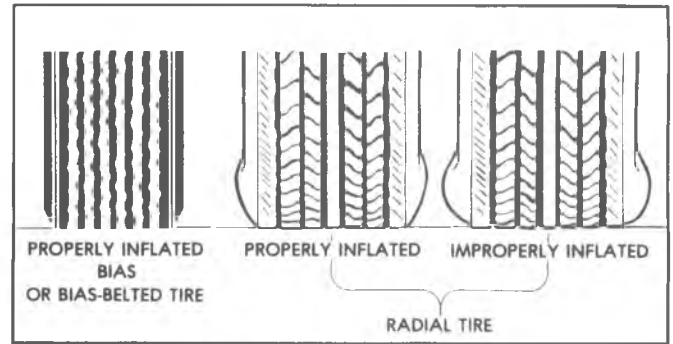

Fig. 0B-13--Properly Inflated Tire
**Inflation Pressure (Fig. 0B-13)**